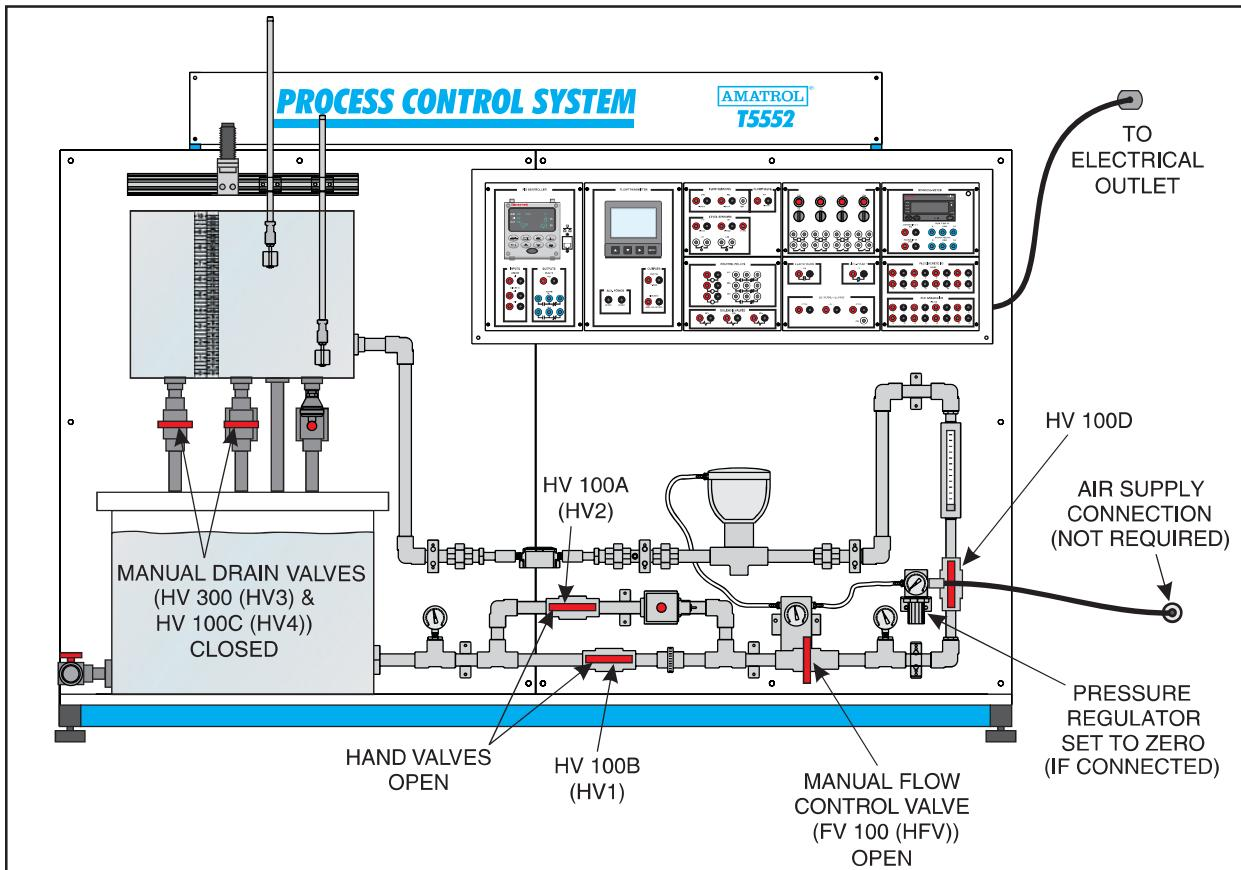

Figure 3-1. T5552 Setup
- 2. Perform the following substeps to set up the T5552, as shown in figure 3-1.